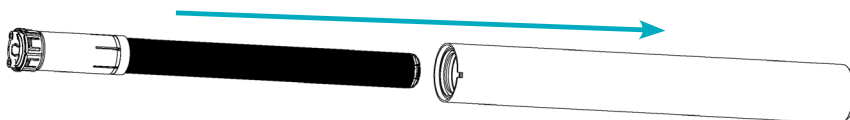

Fig. 7: Inserting the Actuator into a cylindrical Height-Adjustable Column
4. Insert the Actuator into the Height-Adjustable Column (Fig. 7)